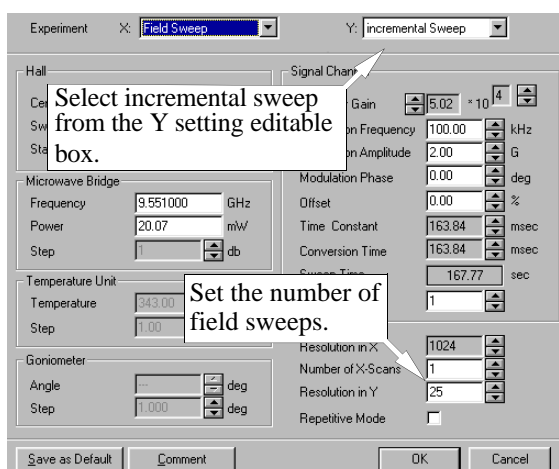

Figure 3-2 Setting the WIN-Acq software to perform multiple field sweeps.
3. **Configure the spectrometer to perform an incremental sweep.** When your ER 4141 controller has stabilized at the desired set temperature, (In this example 343 K) open the Experimental Parameters window and configure the parameters as shown in Figure 3-2.